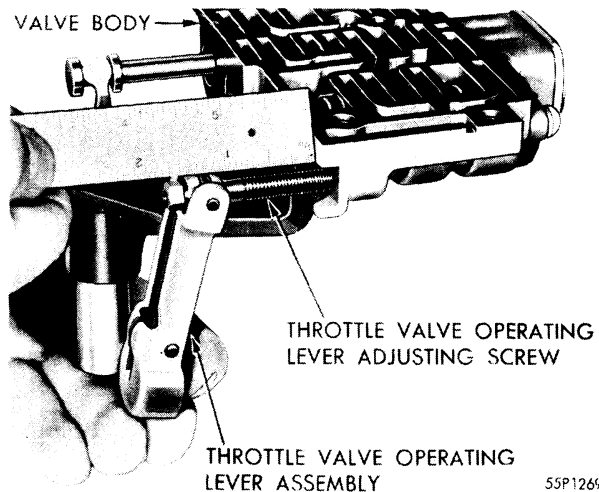

Fig. 121—Adjusting Throttle Valve Operating Lever
- (8) Check the distance from valve body to end of throttle valve operating adjusting screw. This should be approximately $1\frac{1}{16}$ inches. (Refer to Fig. 121.)
- (9) Using Tool C-3279, remove the throttle valve adjusting screw and throttle valve operating lever assembly.